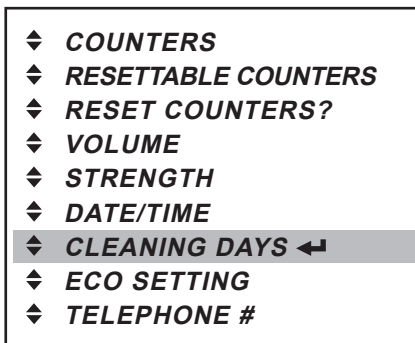

Fig. 38
- Press the enter button ↵ to access the «CLEANING DAYS» menu (fig. 38).